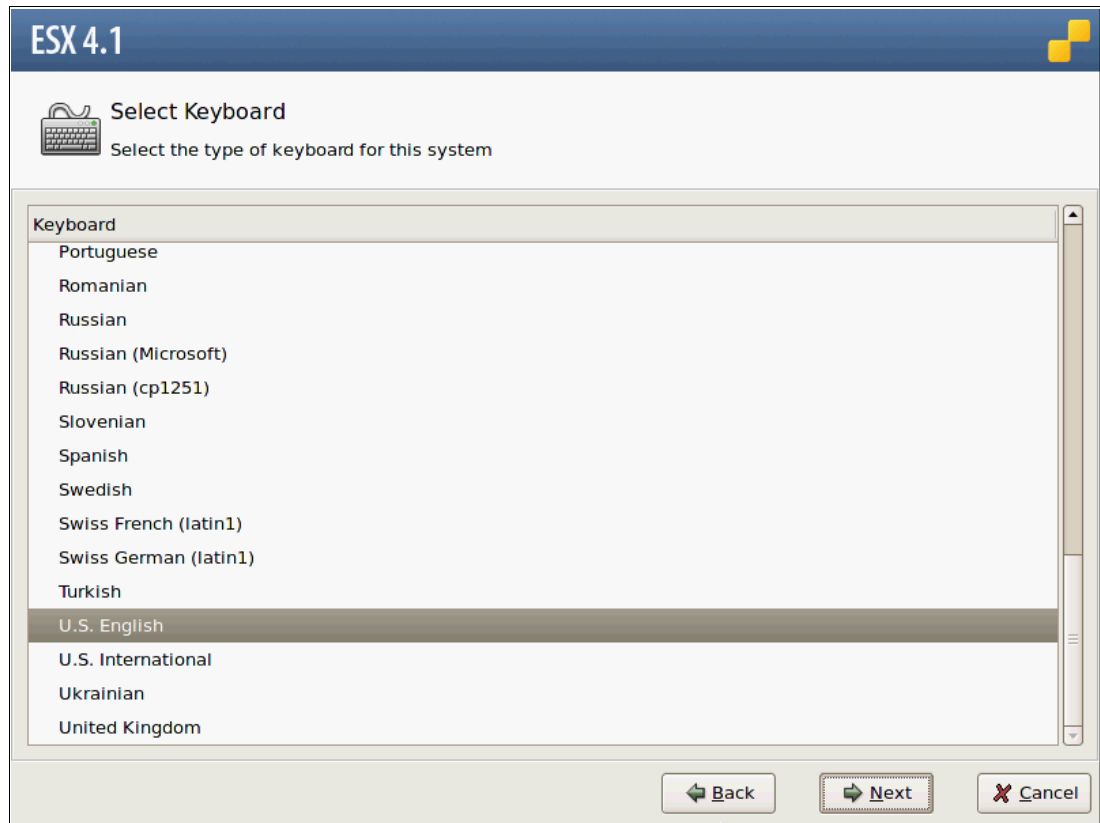

Figure 22-15 ESX keyboard selection
4. On the Keyboard Selection window (Figure 22-15), select the Keyboard type you have and click **Next**.